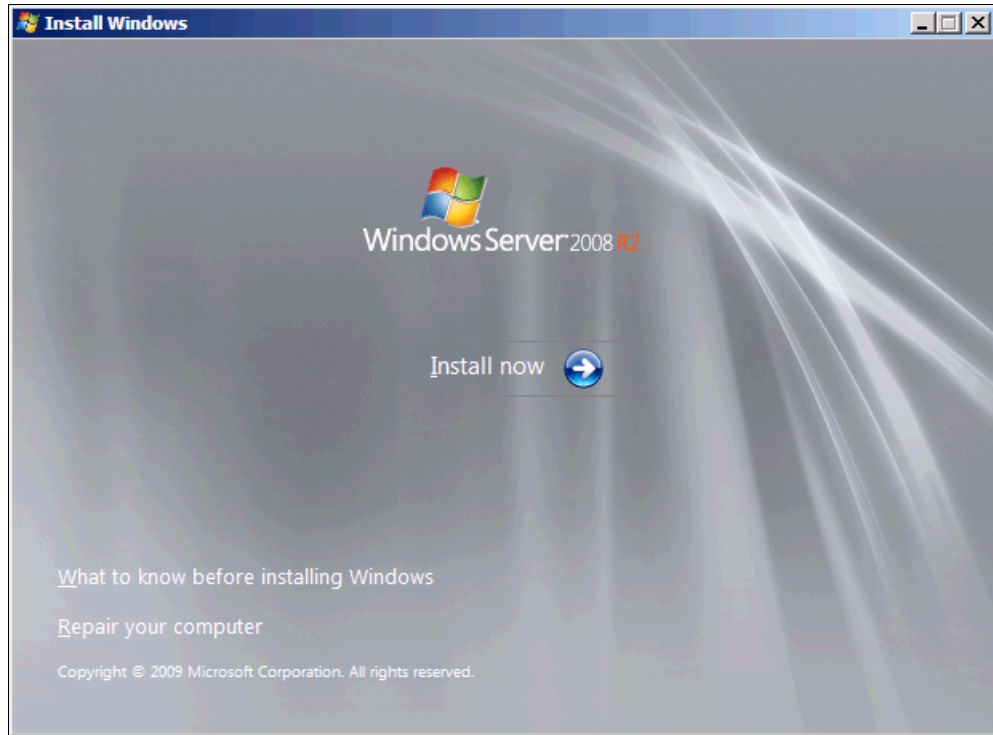

Figure 9-128 Clicking *Install now* in the Windows installation window
8. In the Windows installation window (Figure 9-128), click **Install now**.